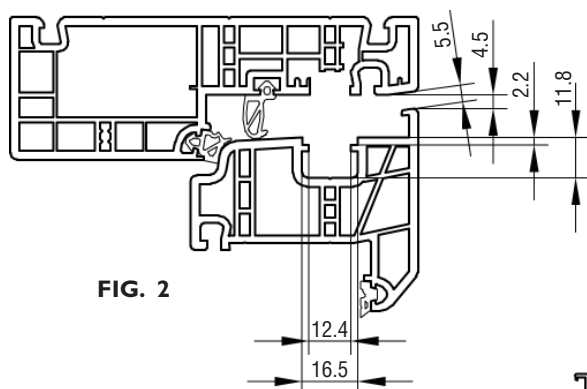

FIG. 2
3. DER FRÆSES TIL KONSOLLET I DE ØVERSTE HJØRNER AF KARMEN, SOM VIST PÅ FIG. 2, 3 OG 4.